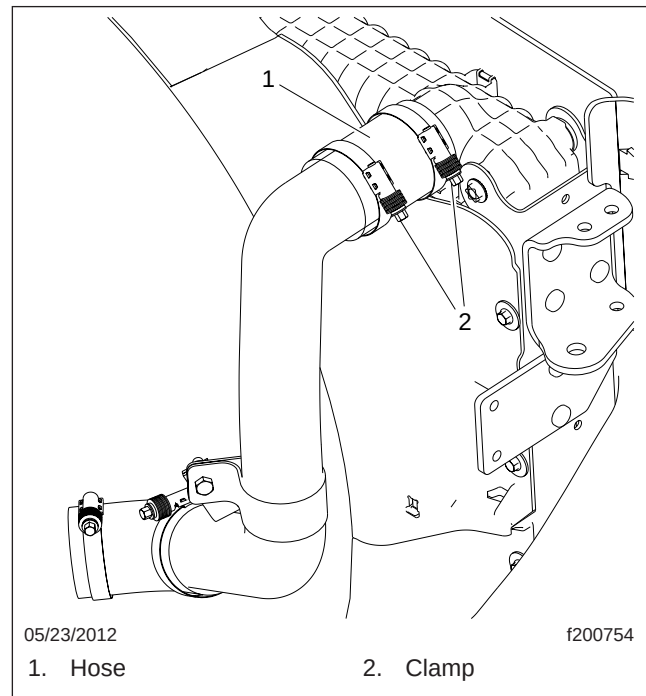

Fig. 4, Upper Radiator Hose
9. Remove the upper radiator hose. See Fig. 4.
9. Connect the surge tank vent line. See Fig. 4.
10. Install the upper and lower radiator hoses. See Fig. 4.